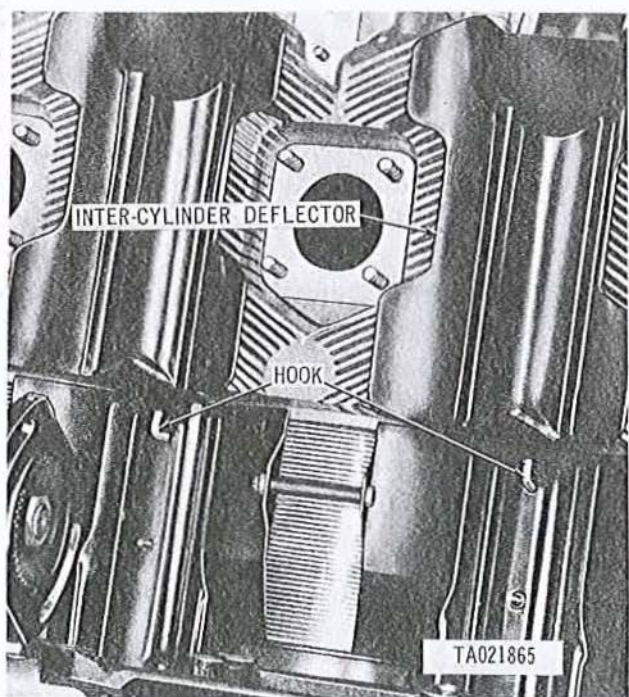

Figure 3-61. Removing or installing right intercyylinder deflectors and hooks.
d. Remove five intercyylinder deflector hooks (fig. 3-61) and remove five right intercyylinder deflectors. Remove left intercyylinder deflector hooks and deflectors in the same manner.